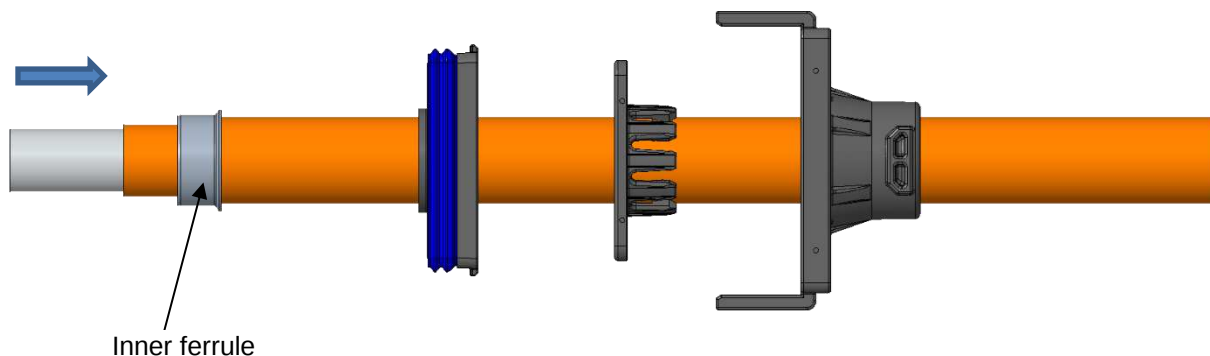

Figure 6: Inner ferrule over outer jacket
3. Insert an inner ferrule over the outer jacket as shown in Figure 6.